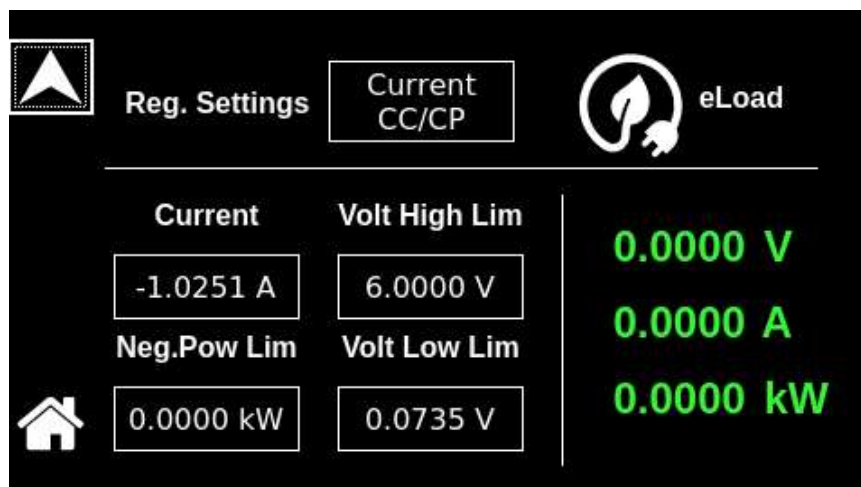

Figure 10-12. Dashboard Screen in Current CC/CP Regulation setting
- b) Current – CC/CP** Regulation setting is shown in Figure 10-12,